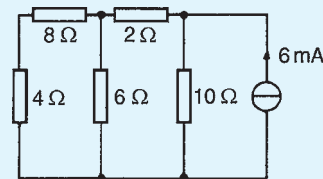

Figure 13.64
- Determine the current flowing in the 6 Ω resistance of the network shown in Fig. 13.64 by using Norton's theorem. [2.5 mA]